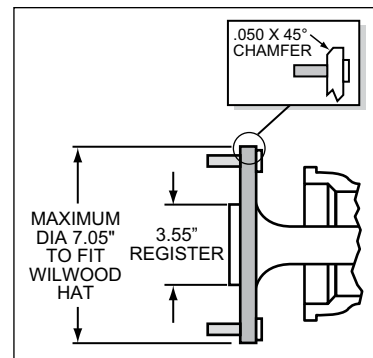

Figure 2. Axle Flange Maximum Dimension
- Axle center register diameter is 3.55", Figure 2.
- Maximum axle flange diameter must be no larger than 7.05" w/.050" x 45° chamfer, Figure 2.